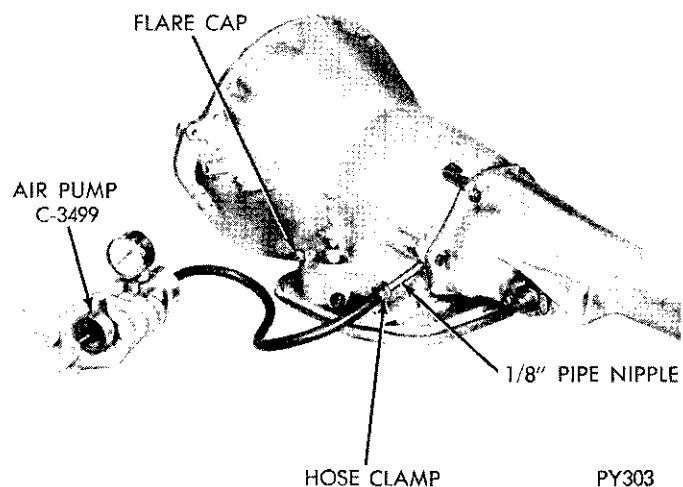

Fig. 5—Pressurizing Transmission
(4) Attach and clamp hose from nozzle of Tool C-3499 to pipe nipple, which is in rear cooler line fitting position in case (Fig. 5).
(5) Pressurize the transmission using Tool C-3499, until the pressure gage reads 8 psi. Position transmission so that pump housing and case front may be covered with soapy solution or water. Leaks are sometimes caused by porosity in the case or pump housing.